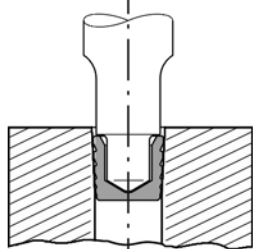

Fig. 2
- The LP-plug can now be pressed in with the setting tool. Corresponding approximate values for stroke S are from the table below (Fig. 2).